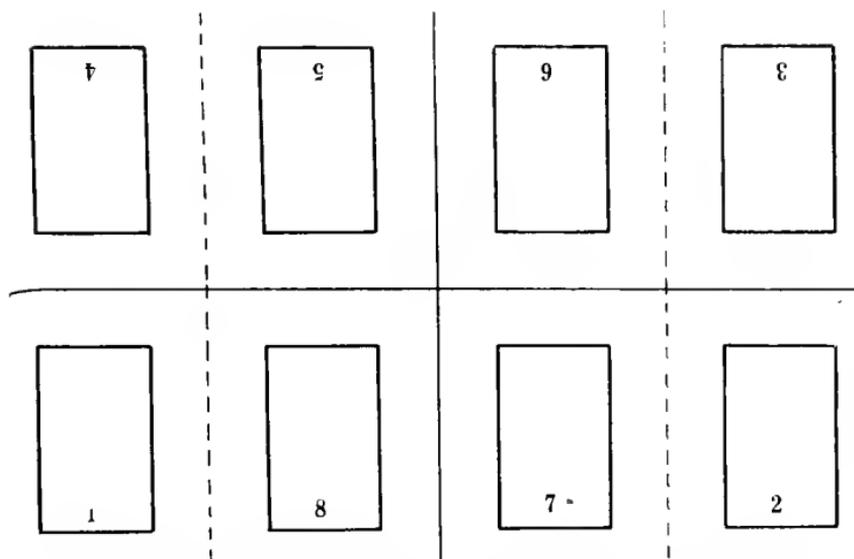

Fig. 63.—Imposition of Eight-Page Form. (Usual Method.)
2. Arrange these on stone according to order given in Fig. 63.